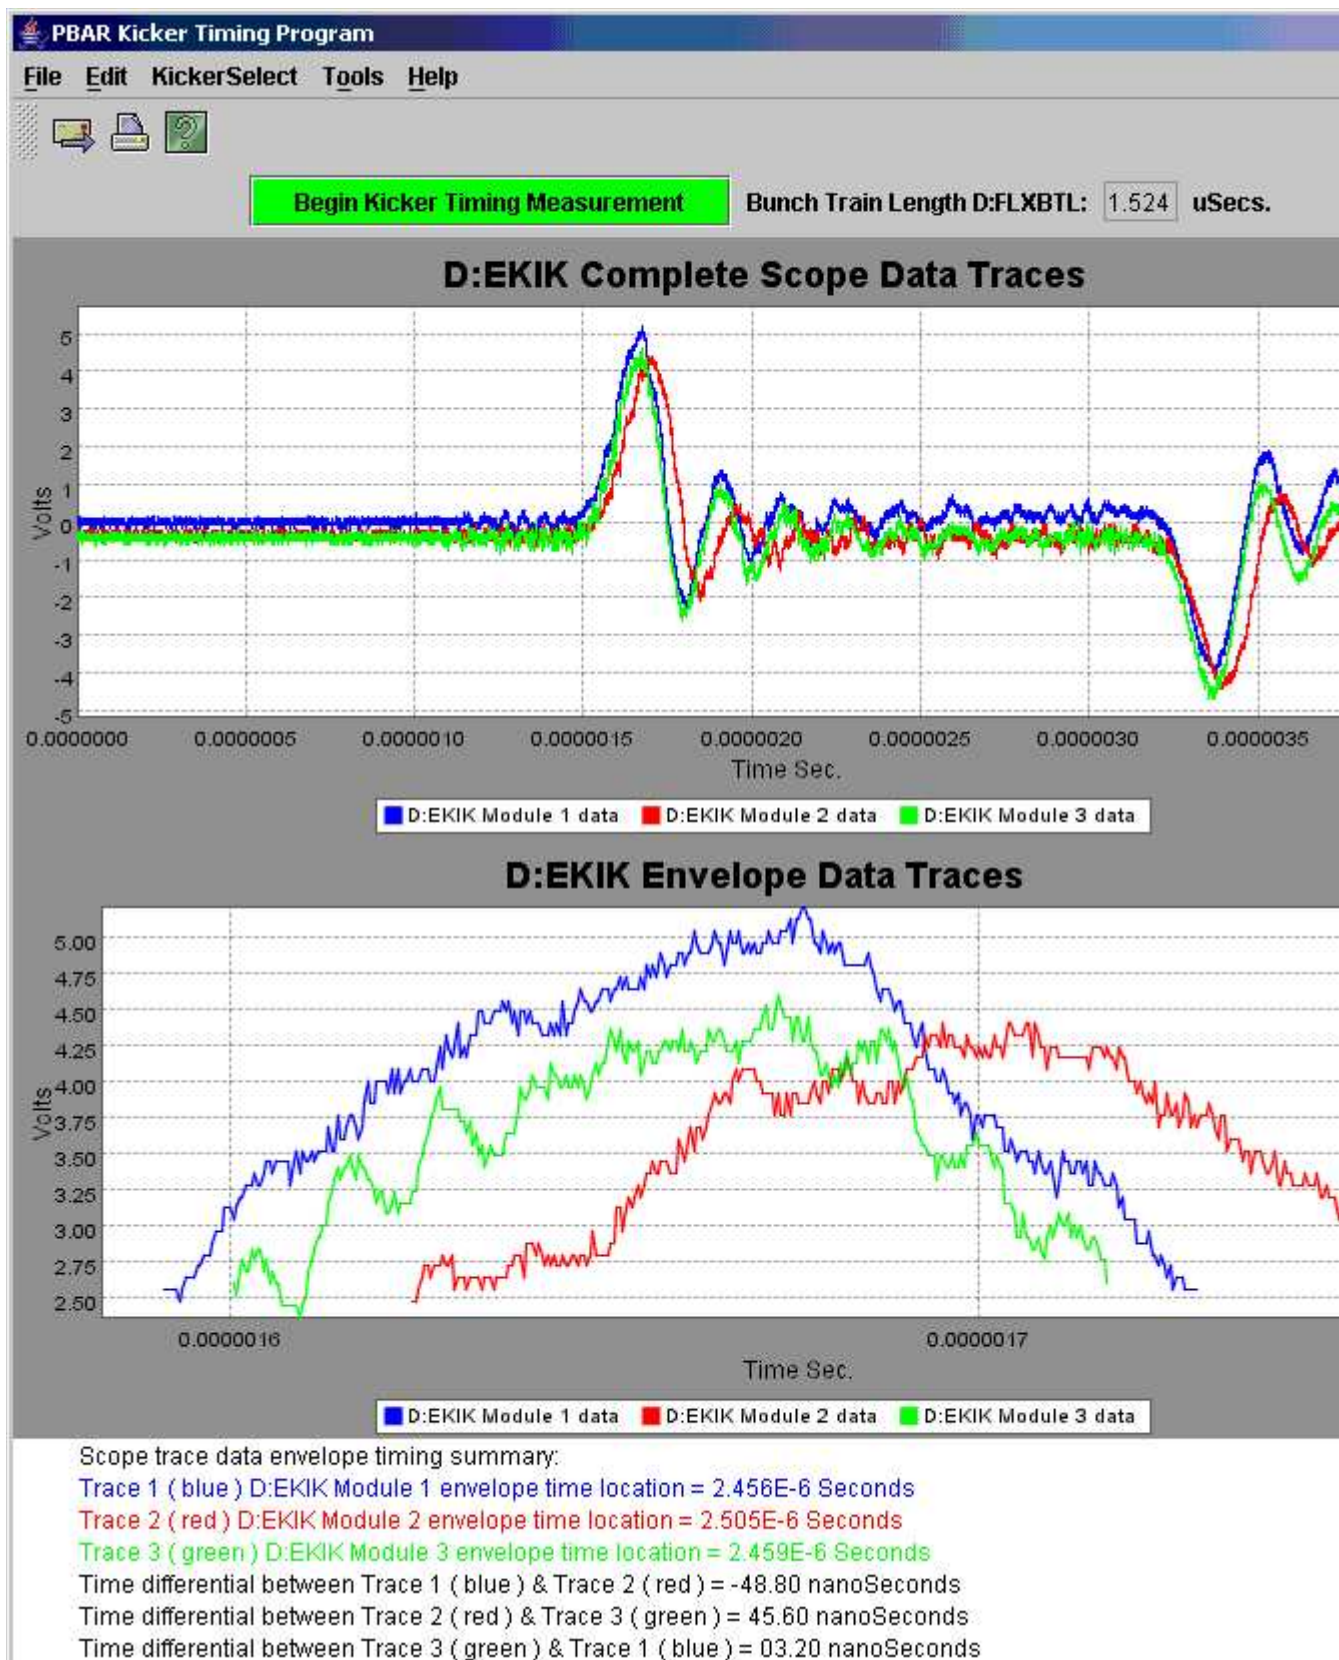

Figure 27: The Pbar Kicker Timing Program shows the Debuncher Extraction Kicker scope traces. The top plot is a
5. Click on the green box that is labeled "Begin Kicker Timing Measurement" as shown in Figure 27. D:FLXBTL is used for Debuncher injection and can be ignored in this portion of the procedure.
Figure 30: The Pbar Kicker Timing Program shows the Debuncher Extraction Kicker scope traces. Comparing the results of this display with that of Figure 27, it is clear that the three traces are closer to being aligned after the tuning was completed.